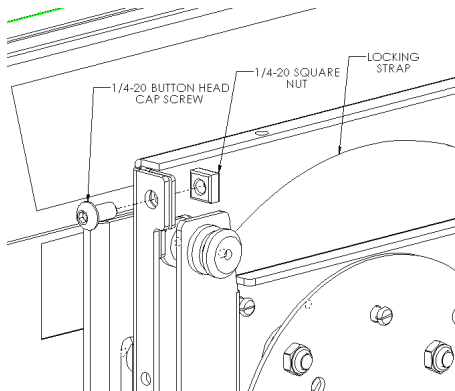
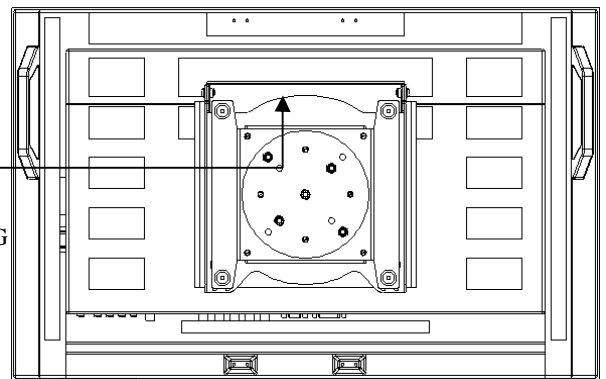

Figure 5
Figure 6
- Place locking strap over top mounting buttons and secure using two 1/4-20 button head cap screws and two 1/4-20 square nuts. Use 1/4-20 tamper-proof security screws and 5/32" security hex key (provided) for added security. See Figure 5 and Figure 6.